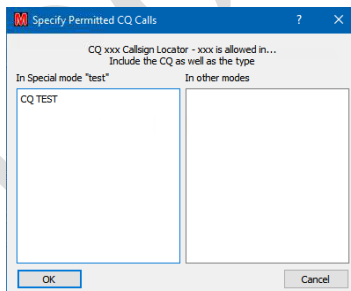

Figure 63 – Configure CQ auto responses
- **‘Config CQ’**: Initiates the ‘Configure CQ’ dialogue (Figure 63) to define which CQ calls will result in an auto-response in both (Con)test and non-(Con)test modes so that in a contest there is no automatic response to non-contest calls and vice versa.